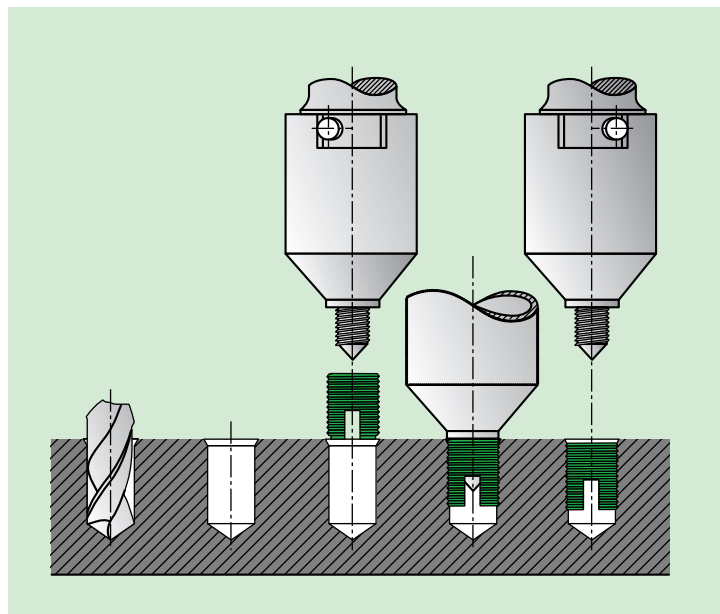

Fig. 17
Manual installation usually takes place using the manual driving tools 610 0... at the female thread or when using tools 610 2... at the hexagonal socket. The machine tools can naturally also be used for manual installation. However, here it is important to ensure that the rotatable shell (2) is positioned correctly (see Fig. 17 process description).
3. Take care not to tilt sideways. In machine tools, the rotatable shell (2) must rest against the externally visible stop pins so that it is driven by the pins in the clockwise direction. Screw in the Ensat® until around 0.1 – 0.2mm under the workpiece surface.